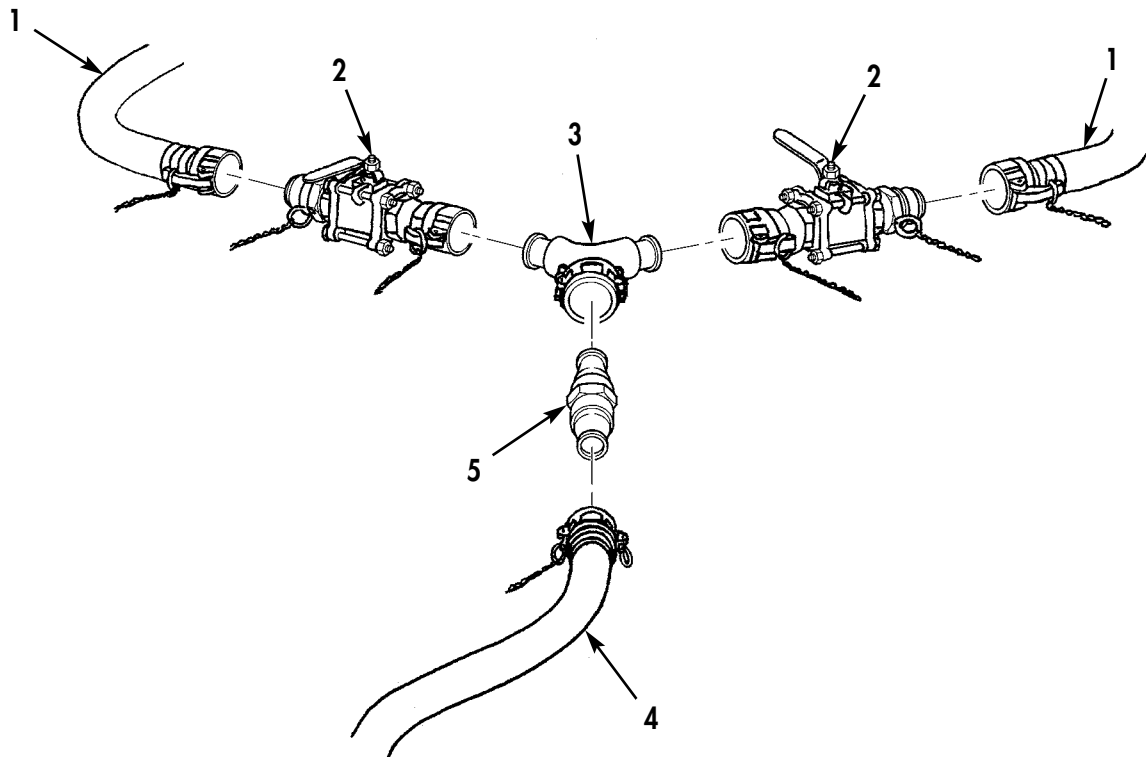

Figure 2. Disconnecting Hoses.
4. Remove two 2 in. (51 mm) DIA x 10 ft (3 m) long suction hose assemblies (Figure 2, Item 1) from two ball valves (Figure 2, Item 2). Drain water and install plug on coupling end of each hose assembly (Figure 2, Item 1).
5. Remove two ball valves (Figure 2, Item 2) from Y-fitting (Figure 2, Item 3), and install cap and plug on each ball valve (Figure 2, Item 2).
6. Remove two Y-fittings (Figure 2, Item 3) and male adapter (Figure 2, Item 5) from 2 in. (51 mm) DIA x 10 ft (3 m) long suction hose assembly (Figure 2, Item 4). Install caps and plugs.